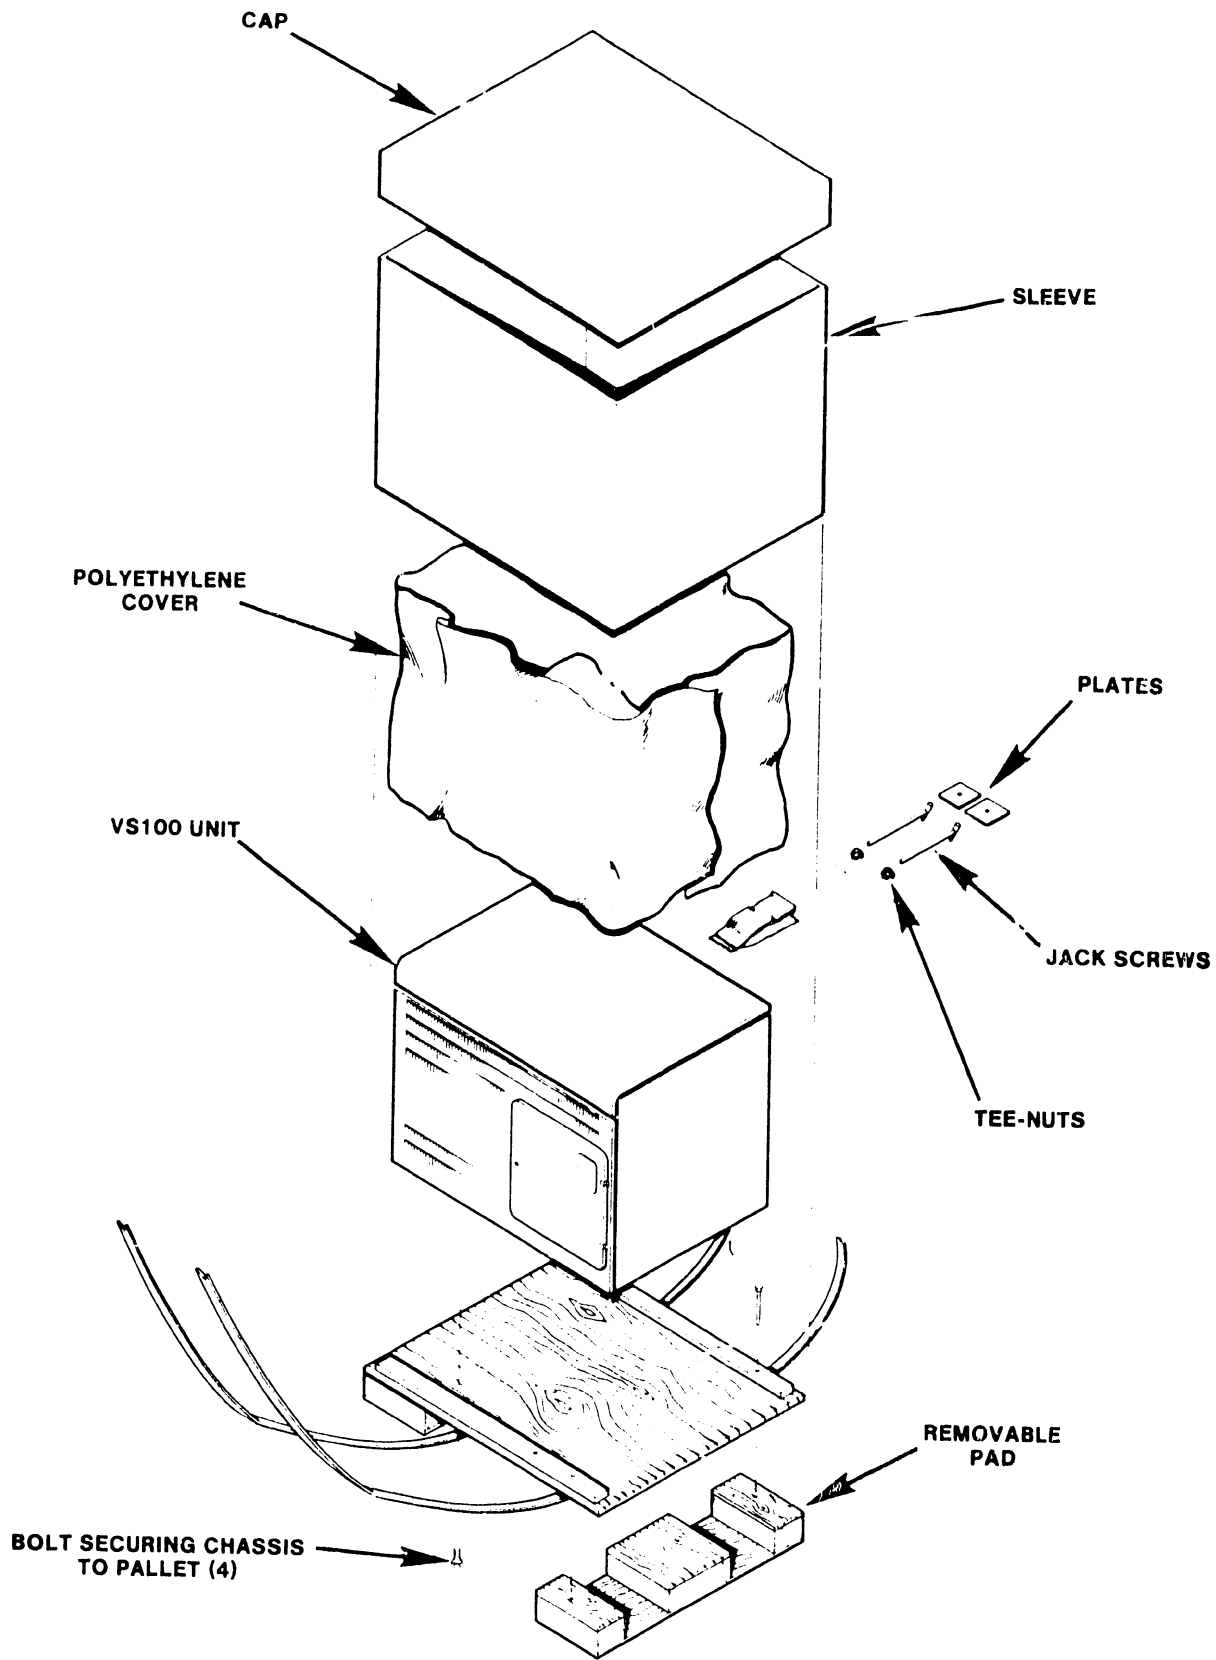

FIGURE 3-1 EXPLODED VIEW OF PACKAGED VS-100 MAINFRAME
The Mainframe is shipped pre-assembled, covered by a corrugated cap and sleeve, and bolted to a shipping pallet. A new feature has been incorporated into this pallet making it easier for CE's to unload the Mainframe from it. With the use of a few simple tools shipped with the pallet, one end can be lowered to the floor forming a ramp, enabling the CE to roll the unit off the pallet to its permanent location. This and all other unpacking procedures are performed as follows: (See Figures 3-1 through 3-4.)
4. Locate and set aside the package containing the jack-screws, plates, and T-nuts. (See Figure 3-1.)